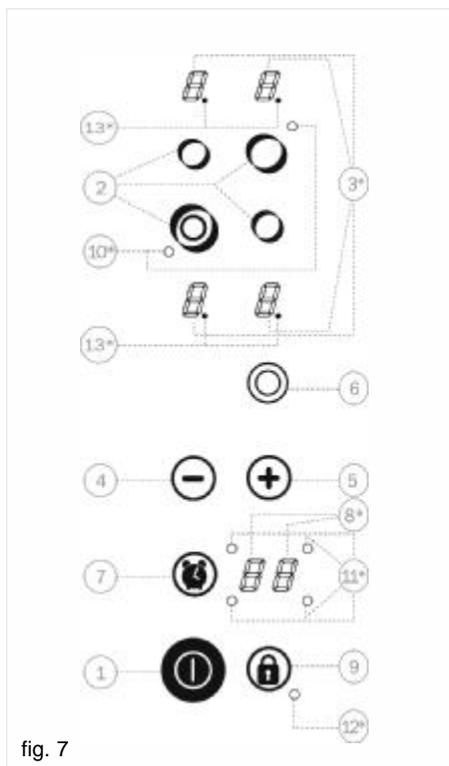

fig. 7
### CONTROL COMPONENTS (figs. 7, 8 and 9)
- 9 Blocking (the other sensors) sensor (except on models shown in fig. 7 and 9).
- 12 Blocking activated indicator light (on models shown in fig. 7 and 9).